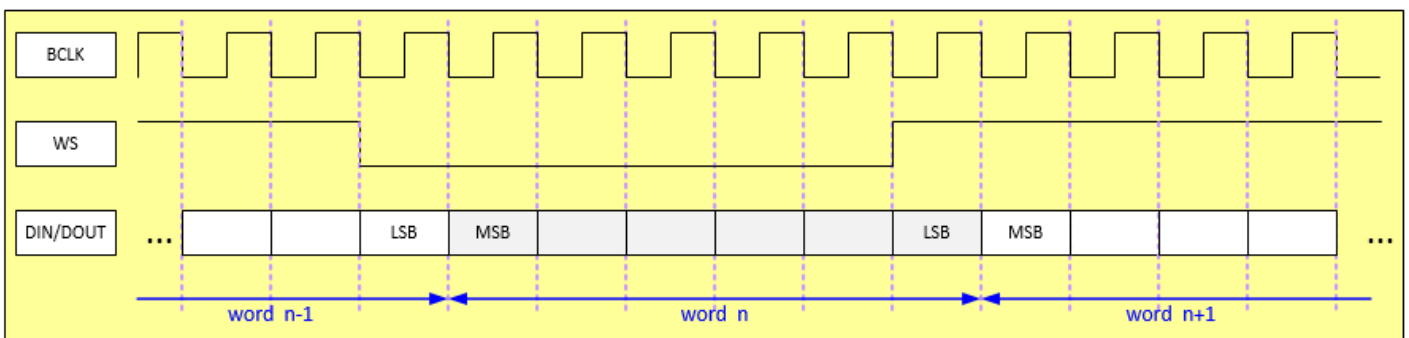

Figure 13-7. Philips I2S Basic Frame Format
- As shown in Figure 13-7, FSDIST in control register 0 is set to '1'. The first bit of data will be transmitted/ received after one serial clock cycle when the channel-select is changed.